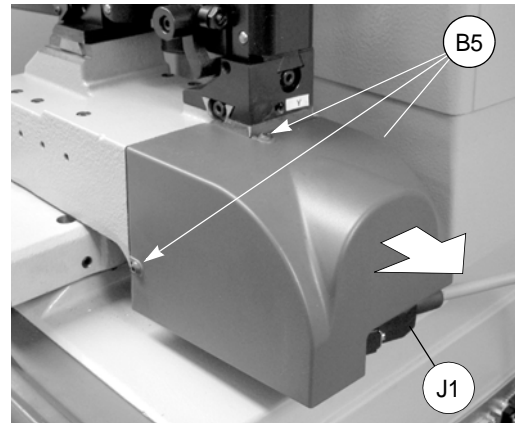

Fig. 57
- 3) disconnect the (J1) Y axis cable from the carriage (fig. 57).
- 4) remove the Y axis carriage cover by unscrewing the 3 (B5) locking screws and pull the cover in the direction shown in fig. 57.